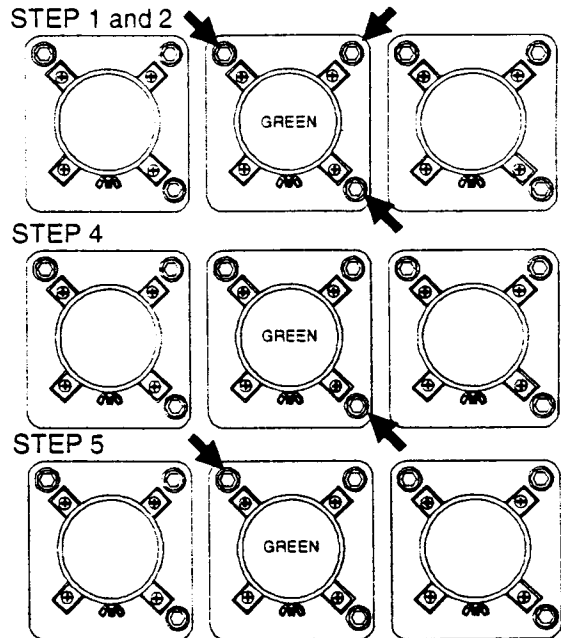

FIGURE S2-2.
- STEP 1. Tighten all three lens adjustments, then turn counterclockwise 1½ of a turn. Refer to Figure S2-2.
- STEP 4. **GREEN ONLY !** Adjust the lower right lens adjustment until the upper right corner of the image is focused. See Figure S2-2. Repeat lens focus procedure if necessary at this time.
- STEP 5. **GREEN ONLY !** Adjust the upper left lens adjustment for side to side focus. See Figure S2-2